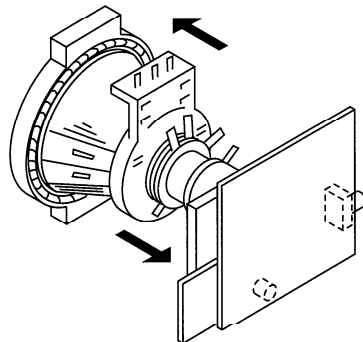

Fig. 4-2
(See Figures 4-2 through 4-4.)
5. Move the deflection yoke forward and adjust so that the entire screen is green. (See Figure 4-2.)